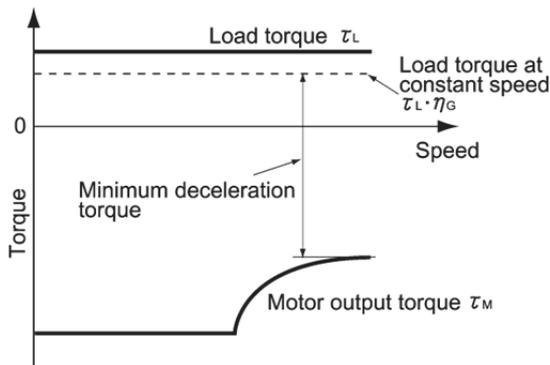
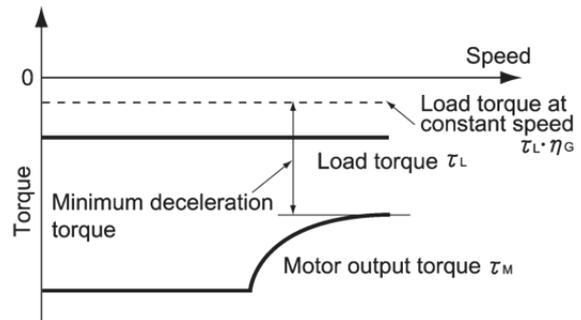

Figure 10.2-3 Example Study of Minimum Deceleration Torque (1)
Figure 10.2-4 Example Study of Minimum Deceleration Torque (2)
- 2) Calculate the minimum deceleration torque (See Figure 10.2-3 and Figure 10.2-4)